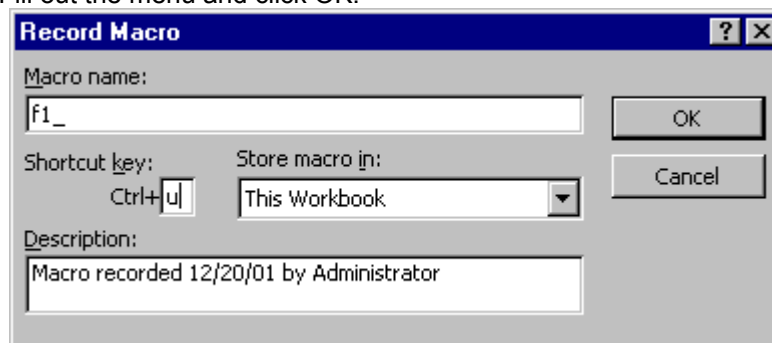

FIGURE 28:
37. On the **TOOLBAR** select **TOOLS/MACRO/RECORD NEW MACRO**. You will obtain the menu in Figure 28. Fill out the menu and click **OK**.